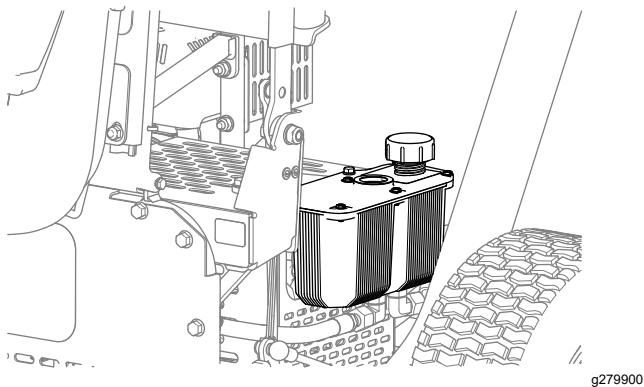

Figure 39
2. Remove the hydraulic-reservoir cap (Figure 39).
4. Install the reservoir cap (Figure 39).